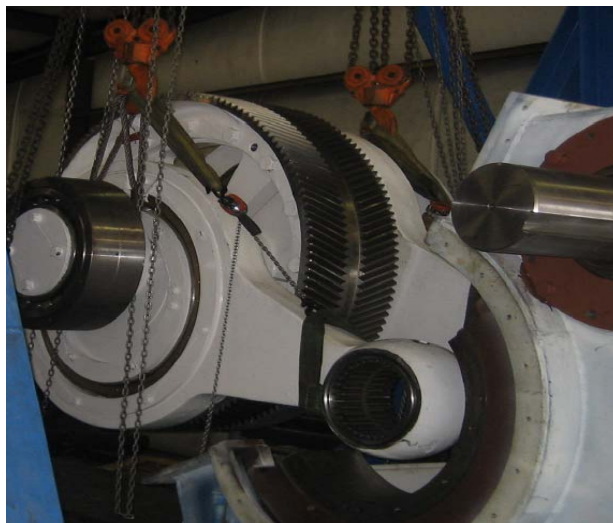

Figure 5-6 Removing crankshaft assembly
9. Use a suitable hoist to remove crankshaft assembly from the power frame (Figure 5-6).